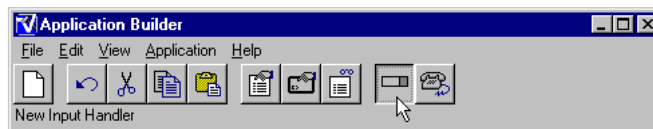
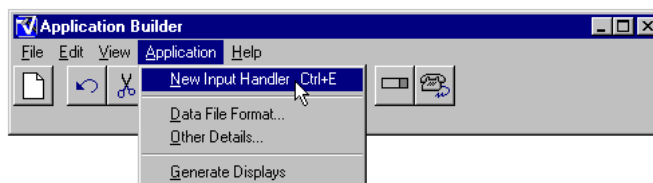

Figure 3-8 Application Builder Toolbar - New Input Handler Button
Figure 3-9 Application Menu - New Input Handler Command
8. Click the **New Input Handler** button on the toolbar (Figure 3-8) or choose **New Input Handler** from the **Application** menu (Figure 3-9) or type **Ctrl+E**.